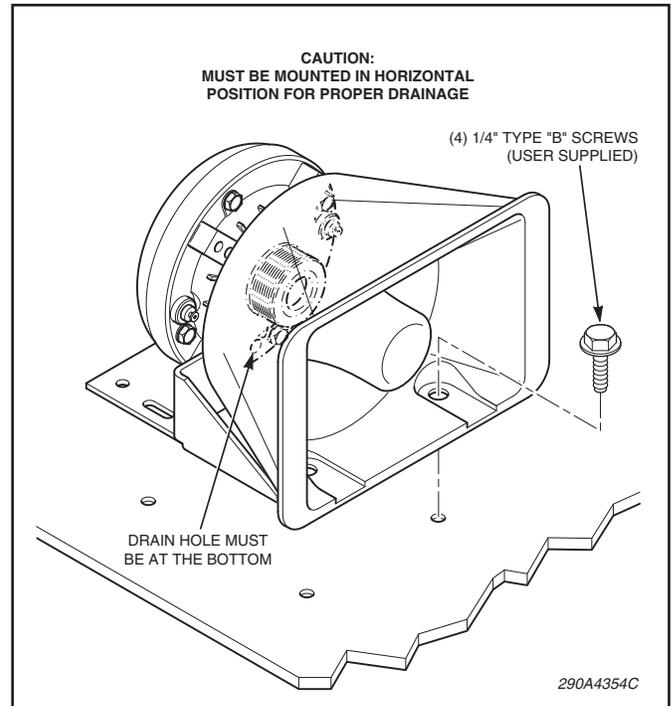

Figure 1.
4. See figure 1. Secure the speaker assembly to the mounting surface using user-supplied 1/4" type B screws.